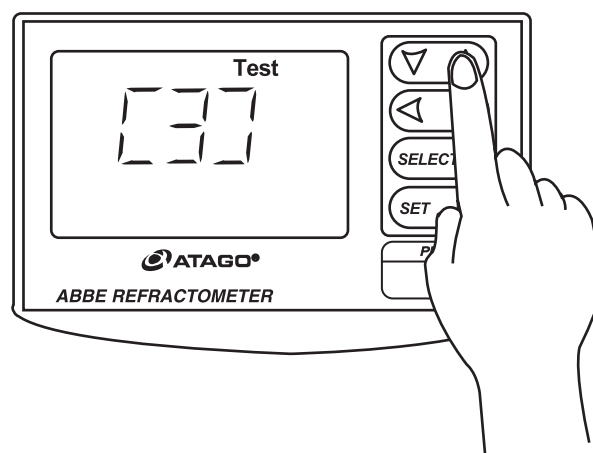

Fig. 10-6
② Change the indication [1] to [3] with the ∇ or \blacktriangle key, and press the SET key for decision (Fig. 10-6).